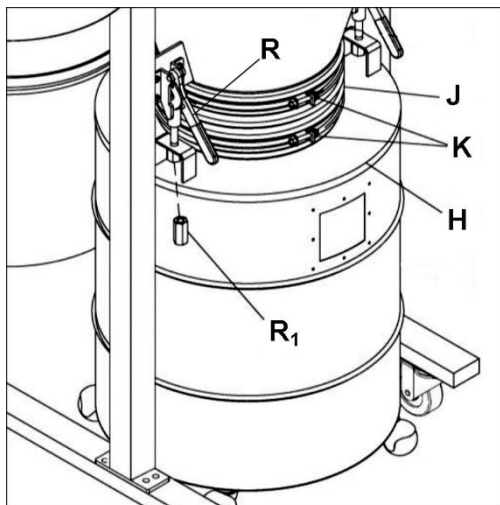

Figure 12
17. Install hose (J) onto cone and drum lid and secure with two hose clamps (K) at top and bottom. See Figure 12.
20. Pull down both quick levers (R, Figure 12) then assemble drum lid (H, Figure 12) to quick levers. Tighten long nut (R₁, Figure 12) onto each quick lever.